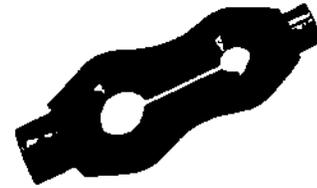

Figure 1-69. Copper Tubing Cleaning Tool
b) Figures 1-69 to 1-71 show some of the tools and equipment for cleaning copper tubing and fittings.
Figure 1-69 shows a hand cleaner for NPS ½ and NPS ¾ copper tubing. It is made of washable rubber impregnated with abrasive material.